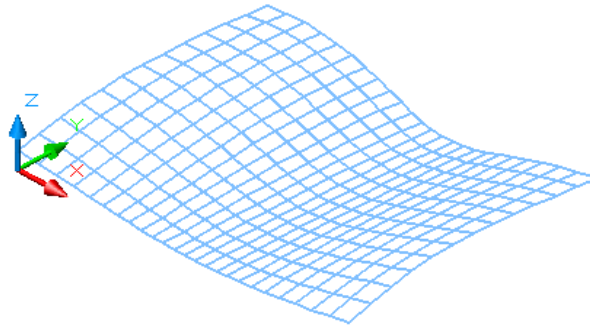

Figure Step 4
Step 4 Enter the commands shown below and your model will appear as shown in the figure. (Figure Step 4)